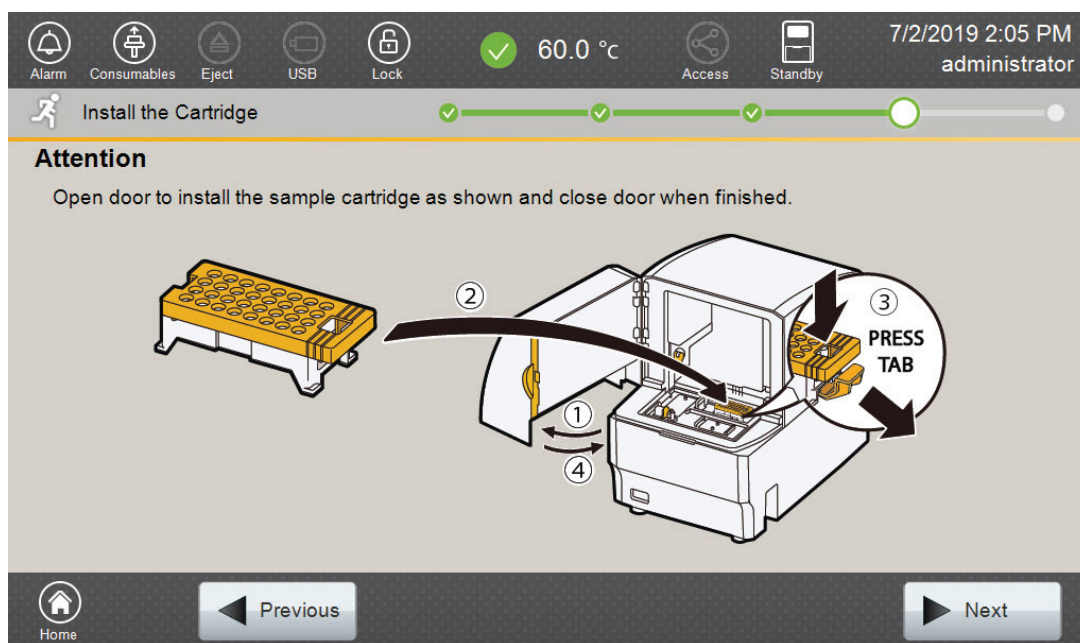

Figure 19. 'Install the Cartridge' Screen.
2. Open the instrument door, and then place the sample cartridge on the autosampler following the instructions displayed on the 'Install the Cartridge' screen (Figure 19). Press down on the yellow tab on the autosampler deck that locks the sample cartridge in place before placing sample cartridge into position. Release the tab to lock the sample cartridge in place on the autosampler deck.